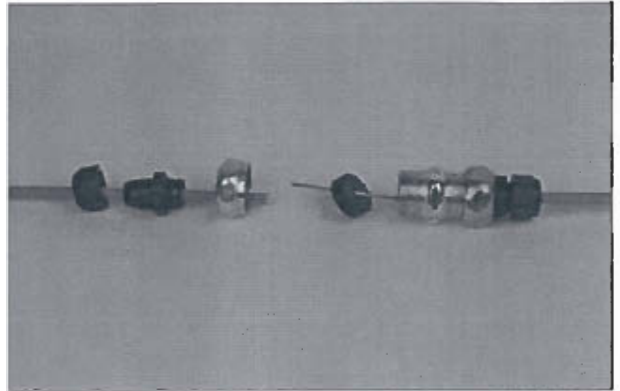

FIGURE 97
7. Install strain relief nut, strain relief, and compression union nut on remaining section of flexible conduit and install flexible conduit insert on wire rope. See Figure 97.